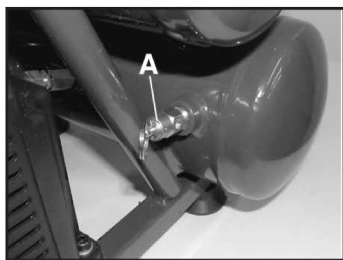

FIGURE 6
SAFETY PRESSURE RELEASE VALVE (A) FIG. 6
4) Pull ring on safety valve (A) Fig.6, allowing air to bleed from the tank until tank pressure is approximately 20 PSI. Release safety valve ring
NOTE: If drain valve is plugged, pull ring on safety valve (A) Fig.6, and hold until all air pressure has been